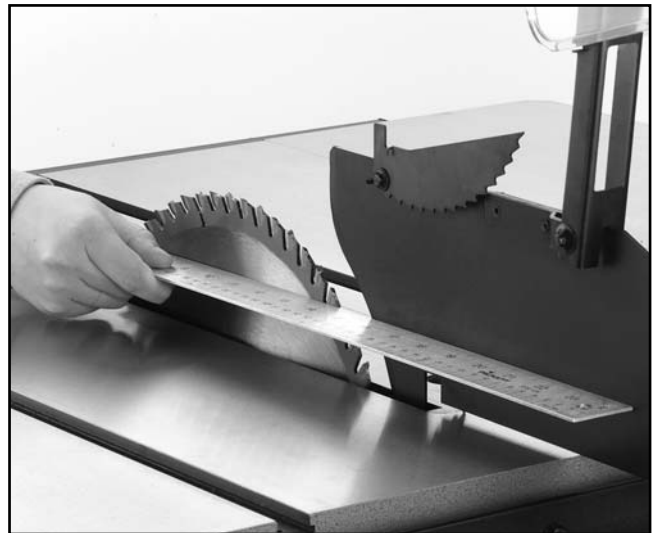

Figure 14. Guard in line with blade.
3. Next, set a straightedge against the face of the saw blade and the blade guard/splitter as shown in **Figure 14**. If the blade guard/splitter is properly aligned, please skip ahead to the "Table Insert" instructions; otherwise, continue with the next step.